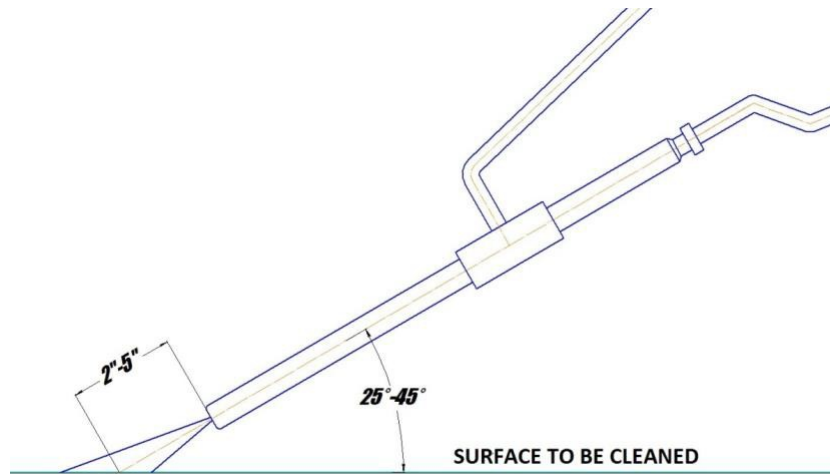

Figure 5.2 – Lance Position for Best Cleaning Results
Once the hydraulic Power Unit is operational and the water jet stream is flowing from the lance, the ROV operator must find the most effective distance between the lance nozzle and the surface being cleaned (See **Figure 5.2**).
2. The most efficient operating technique is to hold the nozzle 2-5 inches (5-12 cm) away from the surface to be cleaned and at a 25-to-45-degree angle to the surface being cleaned (See **Figure 5.2**). The ROV operator needs to observe the shape of the cavitating jet cone. At greater depths, the higher ambient pressure will cause the jet cone to be shorter. The widest zone of the cone is the most efficient part of the cavitating jet. Placing the nozzle closer than 2 inches (5 cm) from the surface being cleaned will not allow for efficient cavitation performance and will degrade the cleaning capability of the CaviBlaster system.